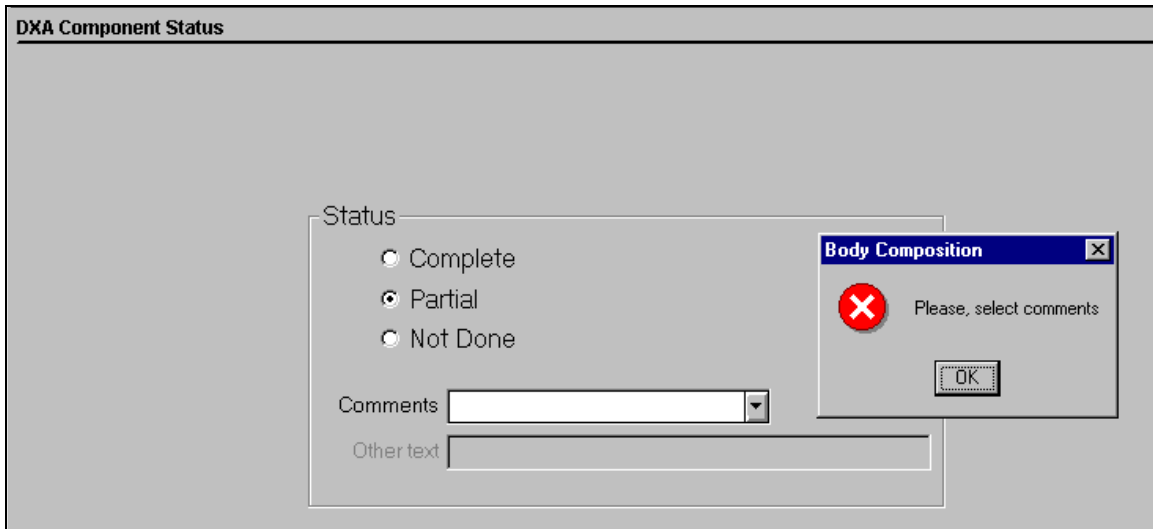

Figure 4-31. DXA component status (required comments)
- If a comment is not selected when the status is 'Partial' or 'Not Done', a message will be displayed: 'Please select comments.' See Figure 4-31.